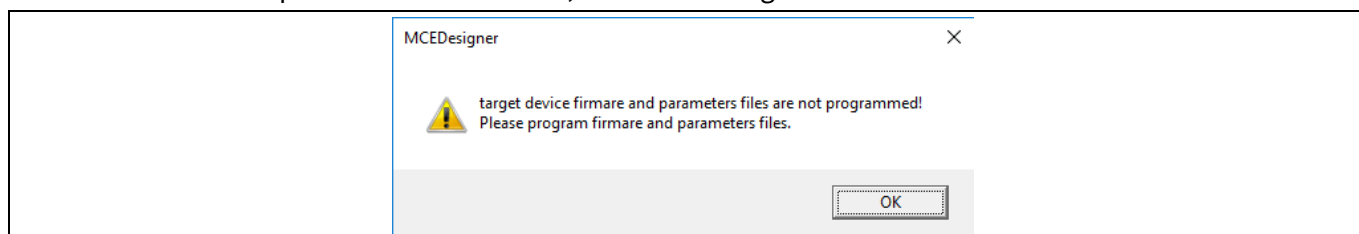

Figure 15 MCEDesigner warning message
4. In case of a blank IC: If the firmware has been erased from the IMD112T-6F040, the following warning message will pop up “Target device firmware and parameters file are not programmed! Please program firmware and parameters file” as shown in Figure 15. Then you can program the firmware and parameters as described in Step 5. If it is not a blank IC, no such message will be indicated.